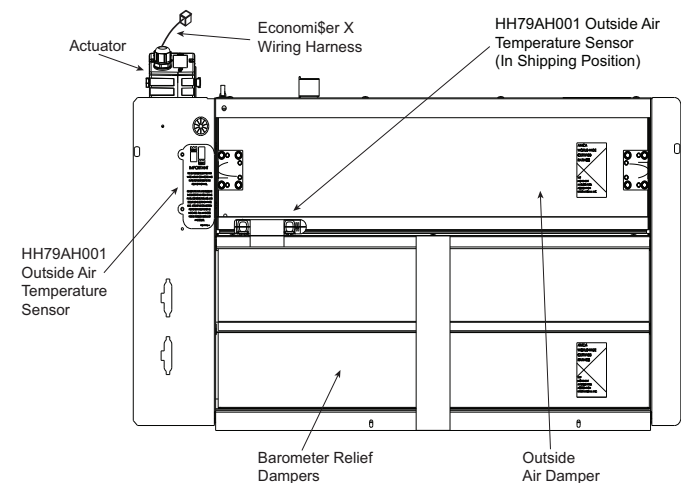

Fig. 1 — EconoMiSer® X Component Locations (CRECOMZR067A01 Shown)
The EconoMiSer X system has several field-installed accessories available to optimize performance. Refer to Table 6 for authorized parts and power exhaust descriptions. Refer to Fig. 1 for shipping and component locations.
6. Remove the red tape securing the relief dampers for shipping purposes. Relocate the HH79AH001 dry bulb sensor from its shipping location to its operating position. (See Fig. 1.)
7. If the EconoMi\$er X assembly will be operating with an enthalpy outside air sensor, remove the factory-installed HH79AH001 dry bulb sensor from the front face of the economizer (see Fig. 1) and install the accessory enthalpy sensor HH57AC081 in the same location as the dry bulb sensor. Connect the 2-wire gray harness with plug from the EconoMi\$er X assembly to the enthalpy sensor. See wiring diagrams on pages 9 and 12. Refer to “Installing Optional HH57AC081 Single Outside Air Enthalpy Sensor” on page 13 for more details on enthalpy settings.